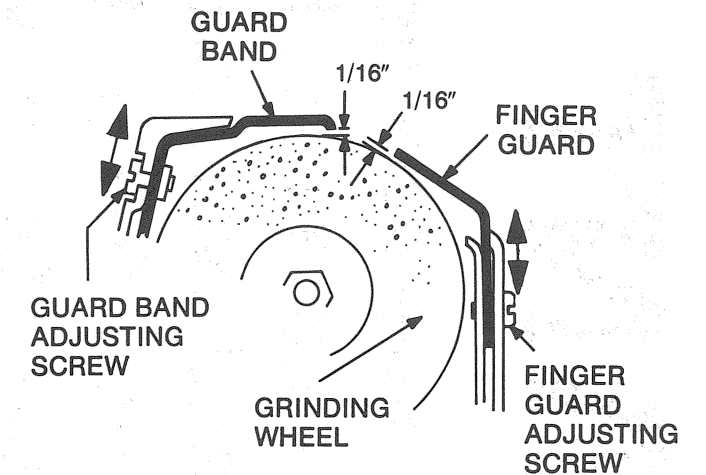

FIG. 10
3. Finger Guard and Guard Band (Fig. 10)
4. Move guard band and finger guard to uppermost position (Figure 10).
6. Adjust guard band and finger guard to about 1/16" from wheel (Figure 10) and tighten adjusting screws.